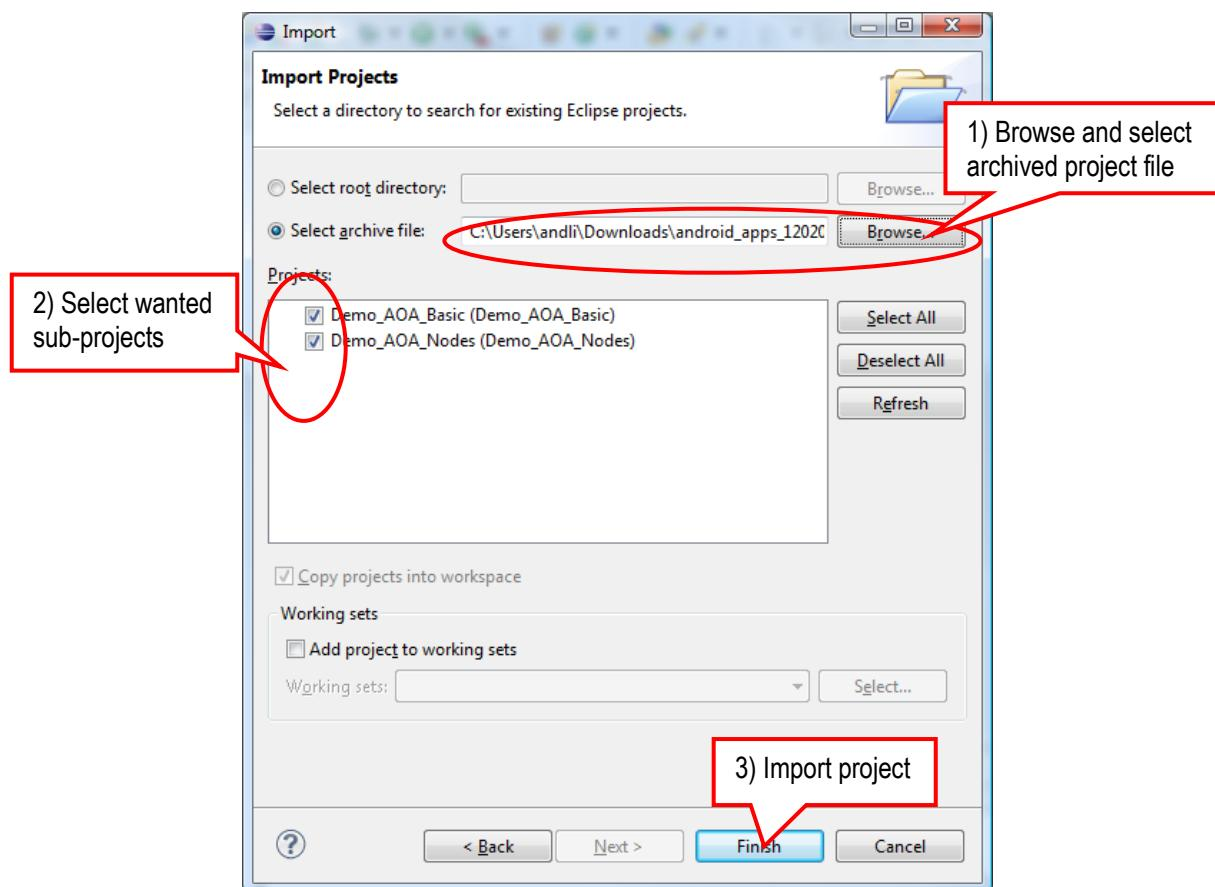

Figure 20 – Import project into Eclipse
6. Select which of the projects to import, see Figure 20